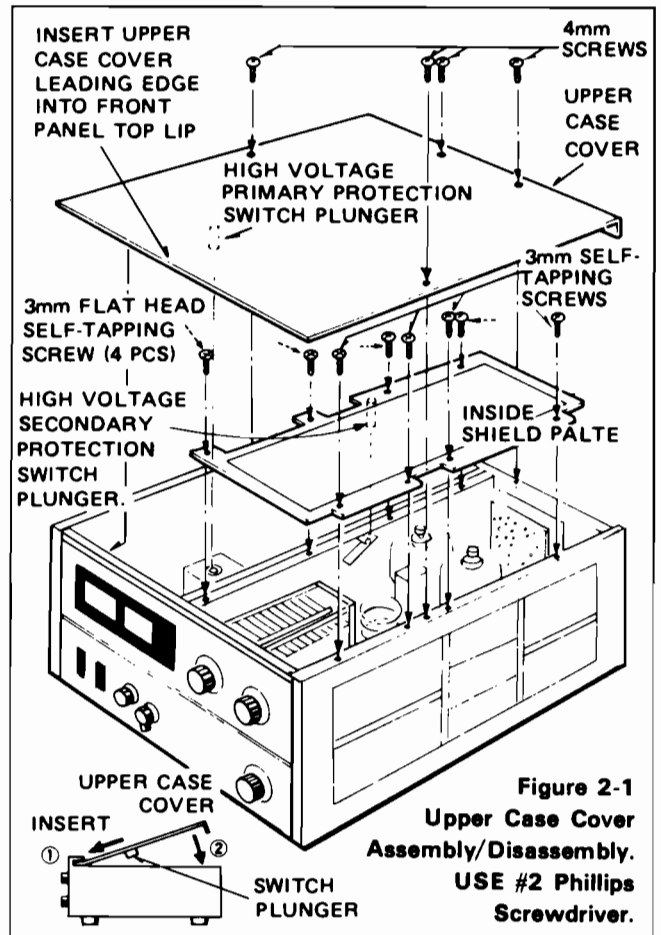

Figure 2-1
Proceed as follows: (Refer to Fig. 2-1)
2. Refer to Fig. 2-1. The inside shield plate includes the high voltage secondary protection switch plunger (a bakelite bar.) Position the plate so that the plunger will securely engage the spring plate for ungrounding the plate high voltage.